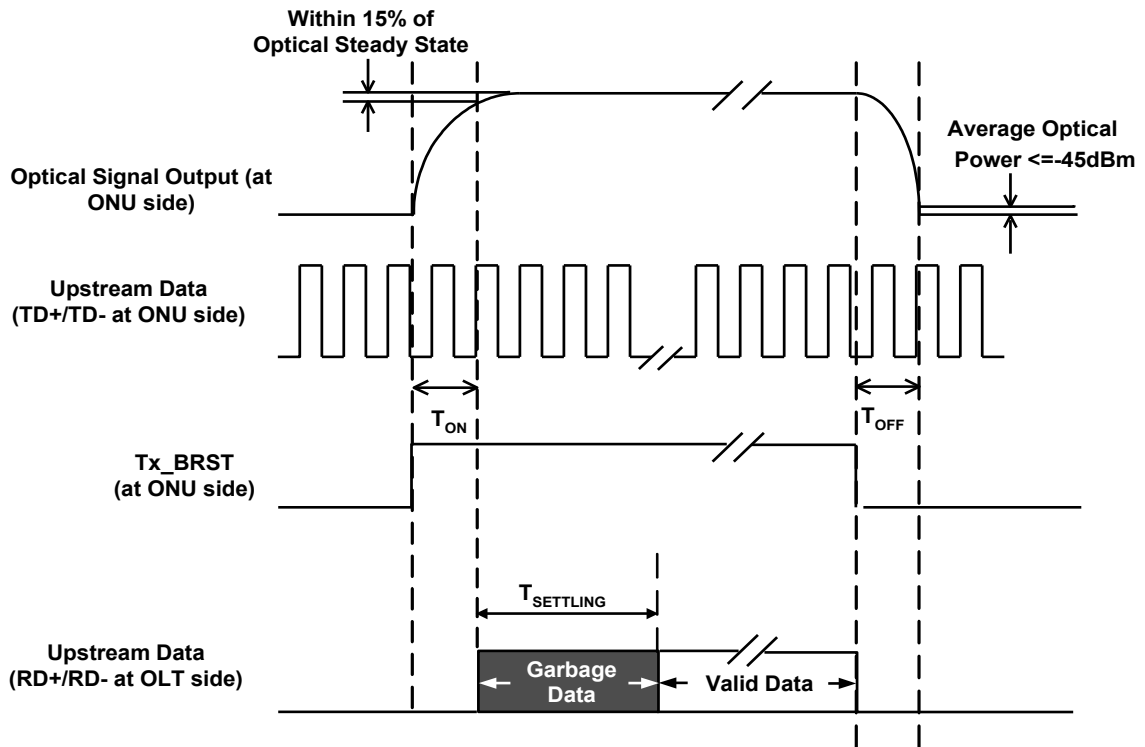

Figure 1, Timing Parameter Definition in Burst Mode Sequence (Sole ONU Application)
- See Figure 1, 2. For multiple ONUs application, It isn't easy to test TSETTLING directly, but there is a relationship TSETTLING = TGAP-TGUARD when TON=TOFF, then TSETTLING can be calculated by TGAP and a certain guard time at ONU side.